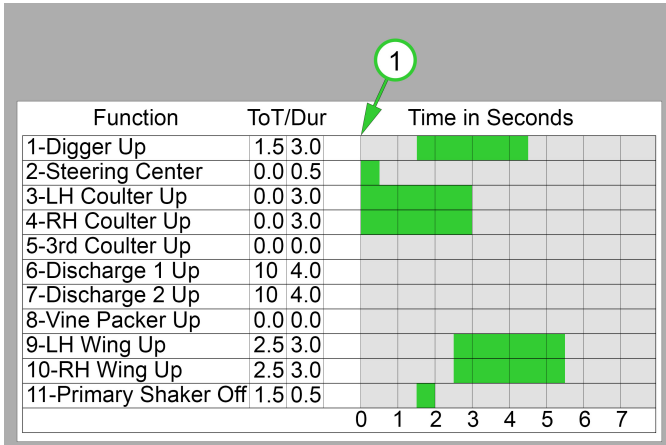

Figure 23
- Each *Turn on Time (sec)* value is calculated from the time the *START* key is activated. This allows functions to activate in any sequence, regardless of the list order. To edit the *Turn on Time (sec)* value, press soft key 5 (*UP*) to incrementally increase the start time. Press soft key 6 (*DOWN*) to incrementally decrease the start time.
- The *Duration (sec)* values are unique for each function. This enables each function to operate for its individually specified time. Some AUTO functions require a duration greater than 0.1 seconds to engage. To ensure engagement of AUTO functions, use a duration of 0.5 seconds or greater. To edit the *Duration (sec)* value, press soft key 7 (*UP*) to incrementally increase the duration time. Press soft key 8 (*DOWN*) to incrementally decrease the duration time.
- Repeat from step 1 for the end of row setup. For the ten end of row functions in the SEOR sequence, see Figure 23. In the figure, (1) indicates when the *END* key is activated.